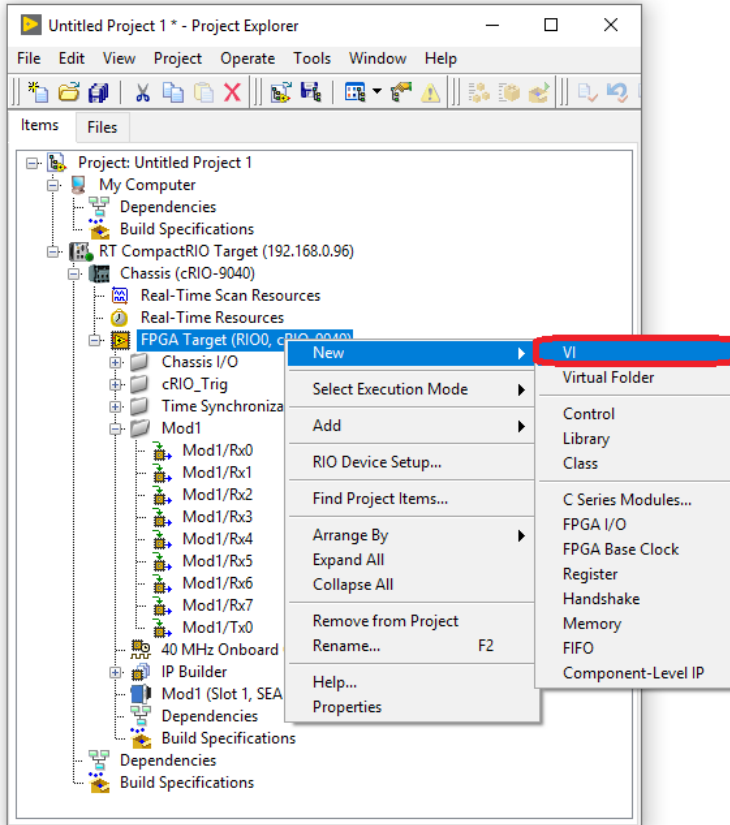

Fig. 4: Quick Start – Create FPGA VI
11. Create a new FPGA VI in the project explorer window. For this right-click on the *FPGA Target (RIOo...)* and select *New -> VI*. Refer to figure 4 below: